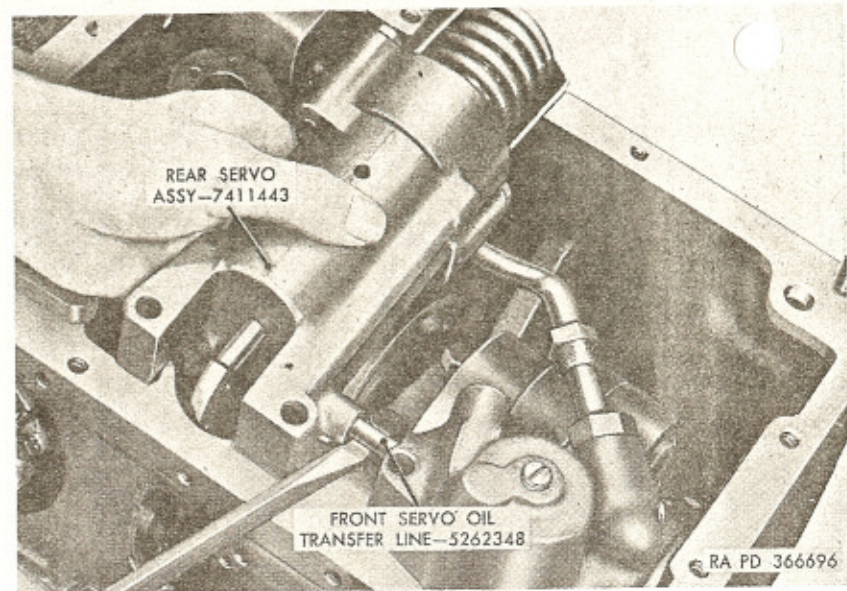

Figure 37. Removing rear servo assembly.
b. Remove front oil pump discharge pipe clip (H) from front oil pump discharge pipe and rear oil pump.
c. Using a $2\frac{5}{32}$ - and a $1\frac{1}{16}$ -inch open end wrench, loosen the front oil pump discharge pipe assembly (P) from front servo pipe connector.
e. Move rear servo assembly (E) toward rear of transmission and remove rear servo assembly. If necessary, pry rear servo from front servo oil transfer line (D), using a screwdriver (fig. 37). Remove front oil pump discharge pipe assembly (P). Remove O-ring gasket from rear of transmission case at discharge pipe opening in case.
assembly from front servo oil transfer line (D), using a screwdriver as shown in figure 37.